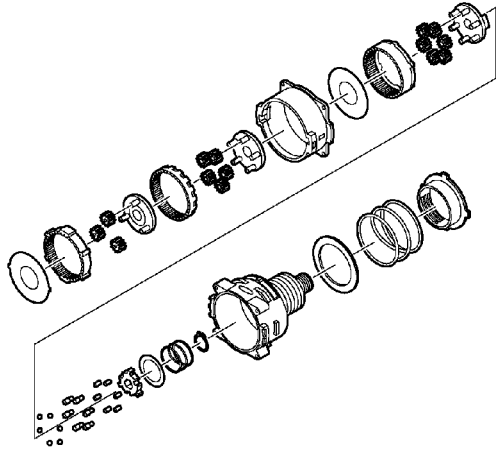

Fig. 8
2. The internal parts of gear box block can be removed one after another. (See Fig. 8)
3. Assemble the other parts in reverse order as shown in the Fig. 8.
4. Assemble the other parts in reverse order as shown in the Fig. 8.